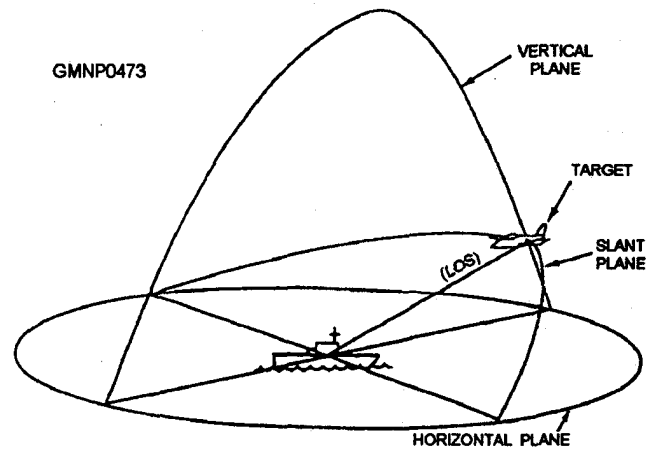

Figure 10-9.—Reference planes.
**REFERENCE PLANES.**— Reference planes are flat surfaces that may extend in all directions to infinity. Normally, these planes are pictured with boundaries equal to the range of the fire control problem, as shown in figure 10-9.